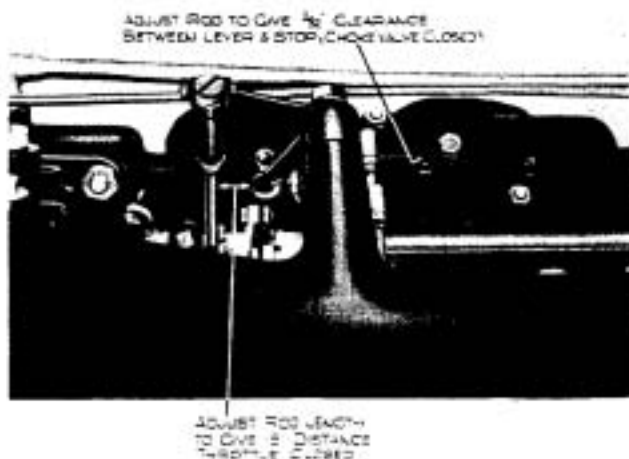

FIG. 8. ADJUSTMENT OF THERMOSTAT LEVER.
3. Fit and adjust RE.13211 rod, with the choke valve fully closed to give .031" clearance between the thermostat lever and stop. See Fig. 8.
pick-up, as shown in Fig.8.